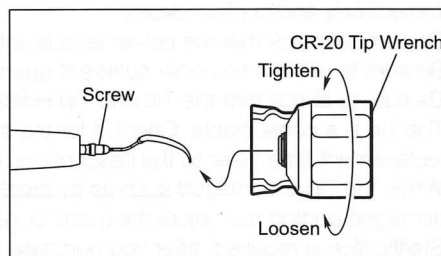

Fig. 3
- 3) Insert the wrench (CR-20 Tip Wrench) from over plastic Tip by drawing the Tip through the wrench hole and aligning the wrench with the screw of the holder (S35) and tighten it until it idles with a "click." (Fig. 3)